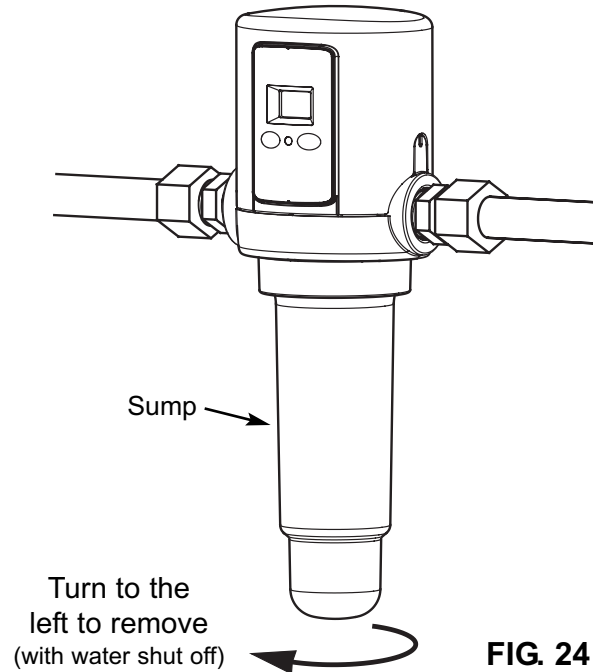

FIG. 24
4. Remove the sump by turning it to the left to unscrew it from the ASF head (See Figure 24). Be prepared for water to drip out of the ASF head when the sump is removed.